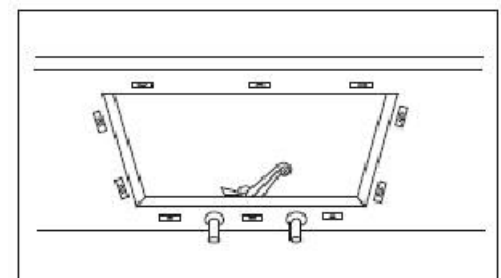

**Figure 1**
- A. Flush mount: Sink edge is flush with countertop opening. (FIGURE 1)